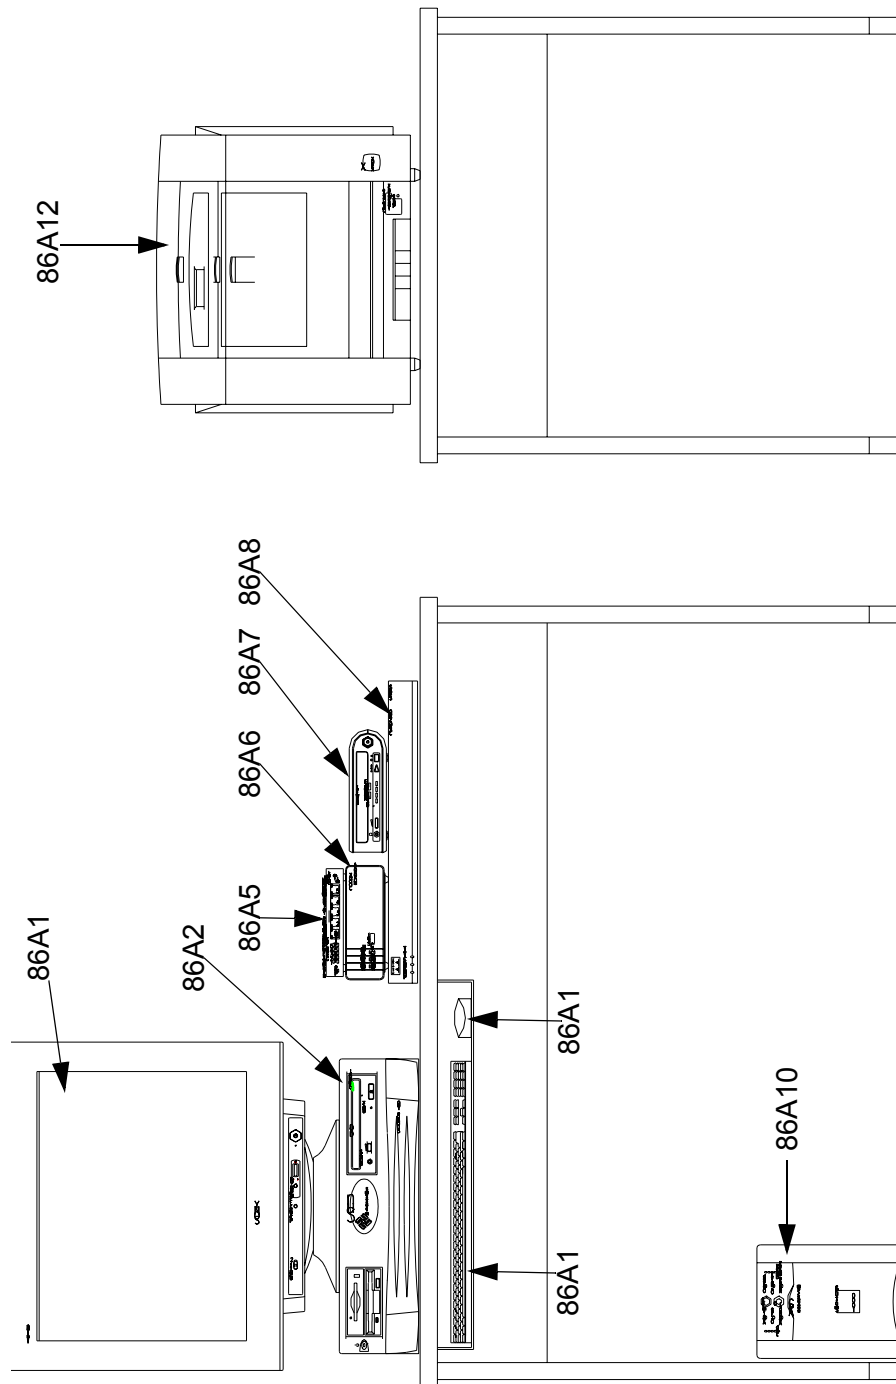

Figure 1. Stand-Alone Small OPUP Configuration
2. Place the Processor (UD86A2) (part number 2300040-301) on the table, as shown in figure 1.
3. Place the Monitor (86A1) (part number 2200118-201) on top of the Processor (86A2), as shown in figure 1.
4. Place the Communications Router (86A8) (part number 2300033-301) on the table, as shown in figure 1.
5. Place the Dedicated Modem (86A6) (part number 1219739-211) on top of the Communications Router (86A8), as shown in figure 1.
6. Place the Archive IV Drive (86A7) (part number 2200121-201) on top of the Communications Router (86A8), and next to the Dedicated Modem (86A6), as shown in figure 1.
7. Place the Switch (86A5) (part number 2200120-201) on top of the Dedicated Modem (86A6), as shown in figure 1.
10. Place the UPS (86A10) (part number 2210053-201) on the floor, next to the PUP table, as shown in figure 1.